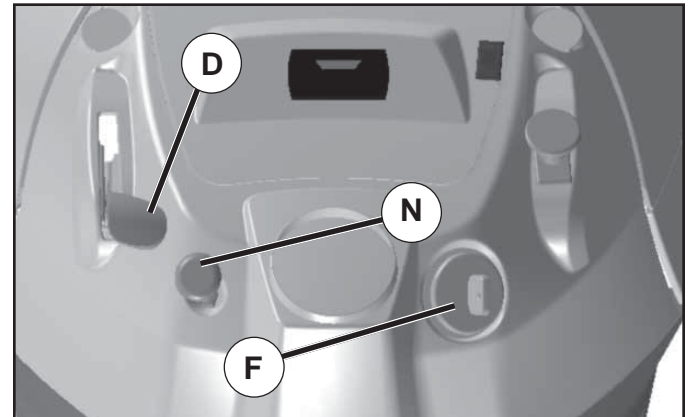

Fig. 9
TO USE THROTTLE CONTROL (D) (See Fig. 9)
TO USE CHOKE CONTROL (N) (See Fig. 9)